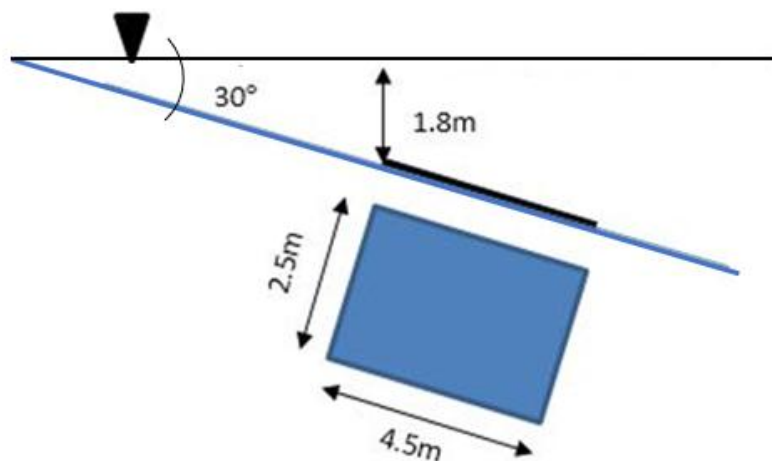

Figure 3
2. (a). A rectangular plate 2.5 m x 4.5 m is immersed in water at an angle of 30° with the water surface as shown in **Figure 3**. Determine the total pressure on one side of the plate and the position of the centre of pressure.